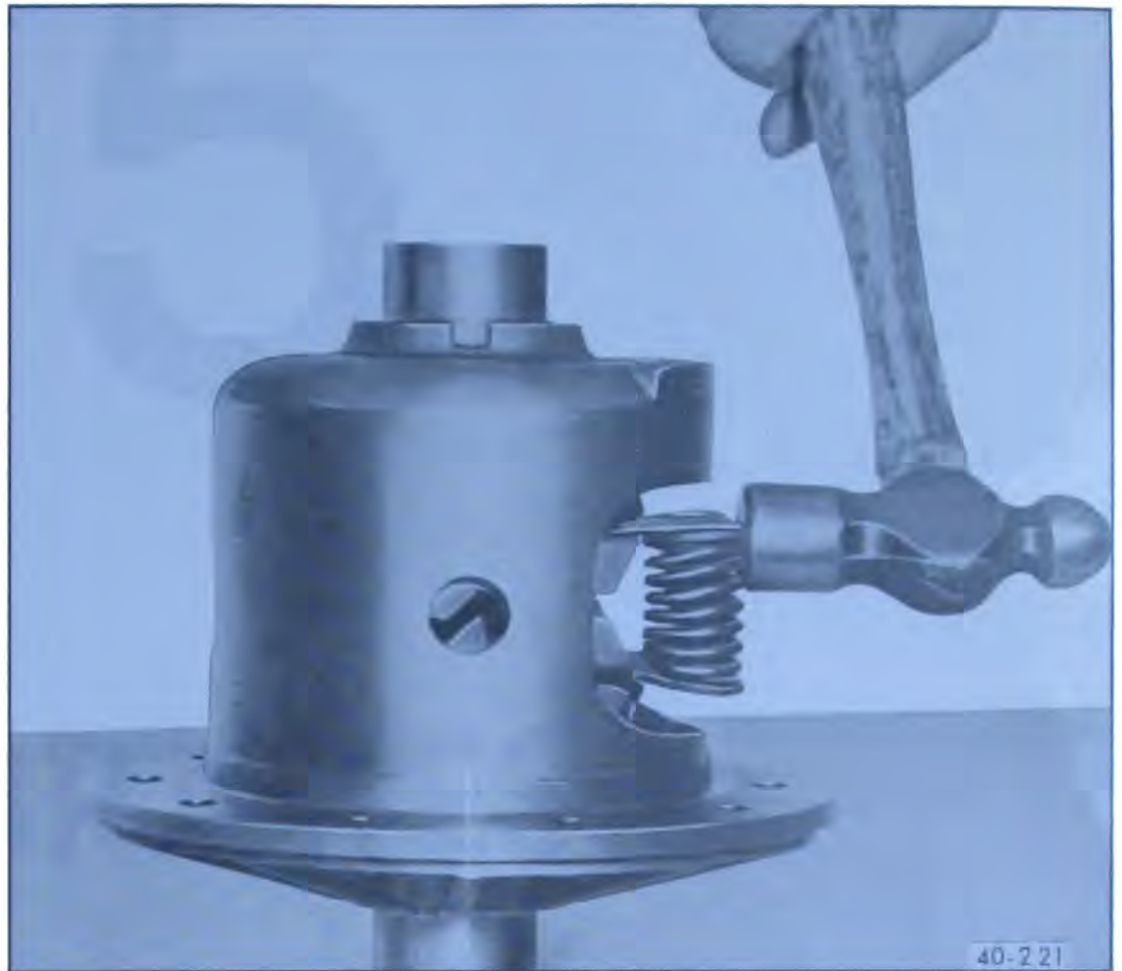

Figure 40-222—Installing Preload Springs and Retainers
8. Tap spring pack further into position and remove 1/4 inch bolts and nuts. Then complete the installation. See Figure 40-222.